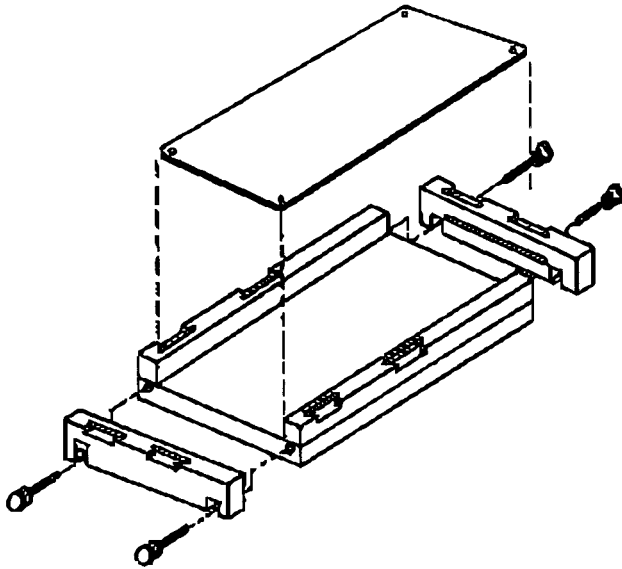

Fig. 1. Casting stand and platform.
1. To assemble the casting stand (Figure 1), slide the platform (A) into the casting stand (B). There is no sidedness to the platform. Position one end gate (C) over the screws protruding from the casting stand (D), insuring that the horizontal slot is facing toward the platform. Slide the edge of the platform into the slot, press down on the end gate, and gently tighten the screws.
4. Place the comb holder (with attached comb) into one of the two positioning slots on each side of the casting stand (Figure 1 E). Check that the bottom of the comb is at least 2 mm above the surface of the platform. Pour approximately 100 ml of the desired agarose solution (<math><60\text{ }^{\circ}\text{C}</math>) into the casting stand (150 ml for the wide/long combination casting stand) for a thickness of approximately 5-6 mm. Allow the gel to solidify for 30 minutes at room temperature.